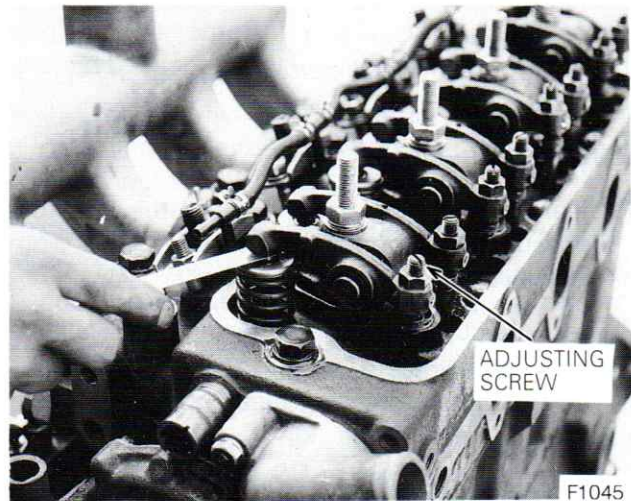

Figure 51 — Checking Valve Clearance
2. Check each pair of valves when the corresponding piston is on top dead center on the compression stroke (both valves closed). Check the clearance of each valves with a feeler gauge, Figure 51.